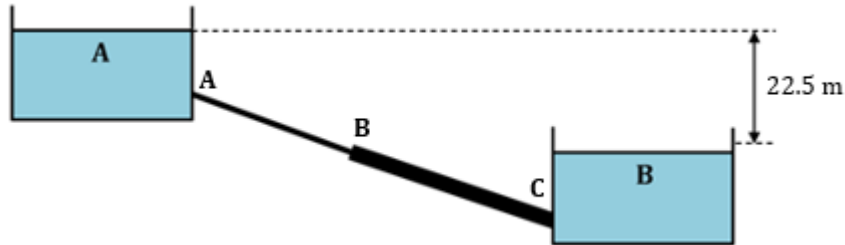

Figure 3
17. Two water tanks are connected by a series of pipe as shown in figure 3 below. Using these data, calculate the flow rate by considering all head losses with a friction factor of 0.01 for both pipes.